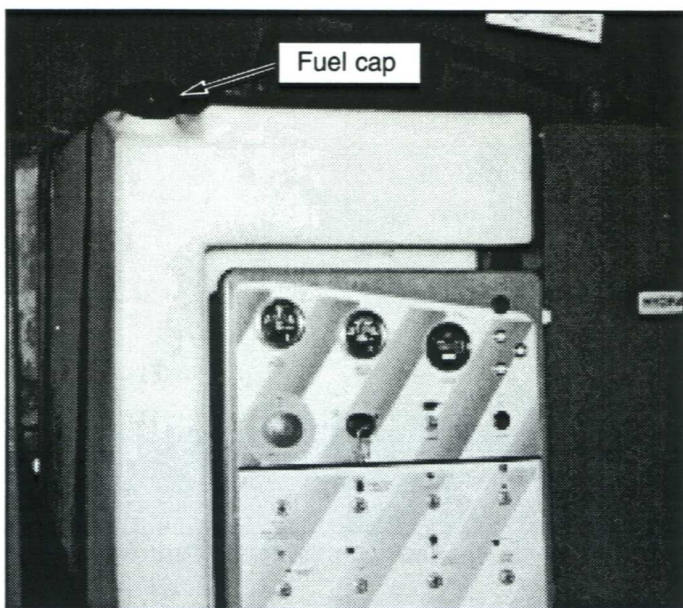

Figure 2-11: Fuel tank
1. Open left turret cover, open fill pipe cap. (see figure 2-11)